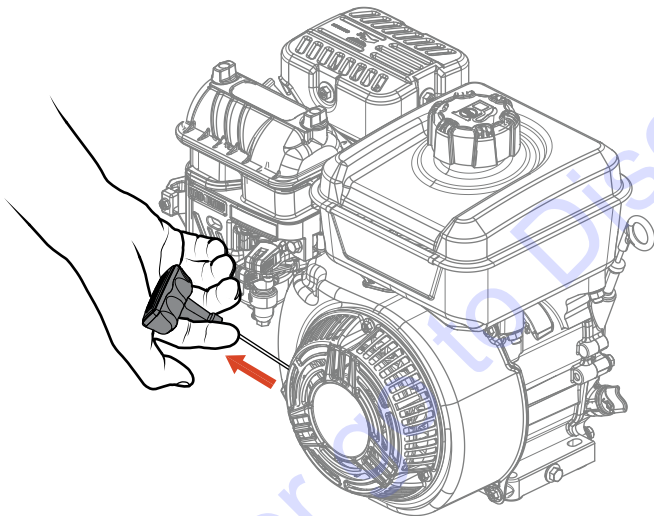

Figure 32. Starter Grip
6. Slowly pull the starter grip (Figure 32) until resistance is felt, then pull briskly and smoothly to start the engine. Gently return the starter grip to its original position.